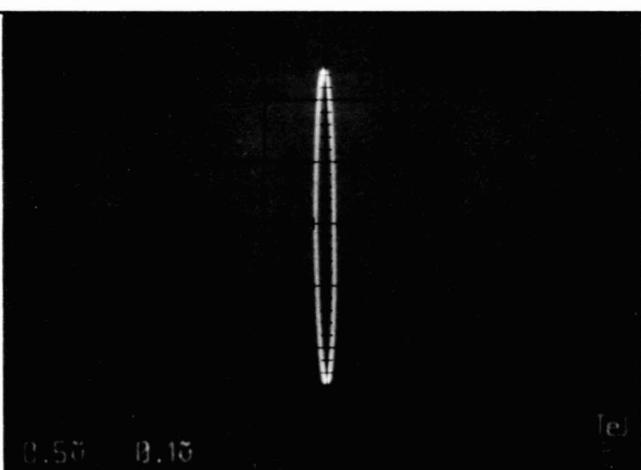

Figure 22
C. Play Verany Disc 1 on Track 1 with the oscilloscope in the XY mode. Adjust the scope and VR303 to obtain the perfectly vertical ellipse shown in Figure 22.
B. Play Verany Disc 1 on Track 1 and adjust VR304 to obtain the display shown in Figure 22.